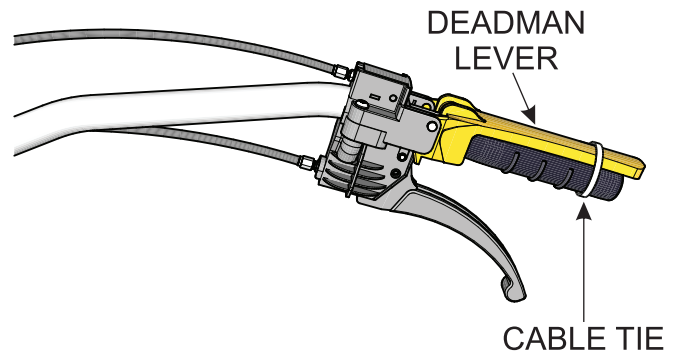

Figure 47. Securing Deadman Lever
1. Fully engage the deadman control lever (Figure 47). Secure lever with a cable-tie in the closed position.
4. Next, fully engage the **YELLOW** deadman control lever (Figure 47). Secure lever with tape or rubber band in the **closed** position.